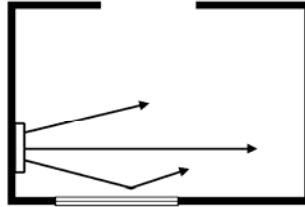

Fig. 2
- Corner placement restricts air movement, allows cold spots (fig.2)